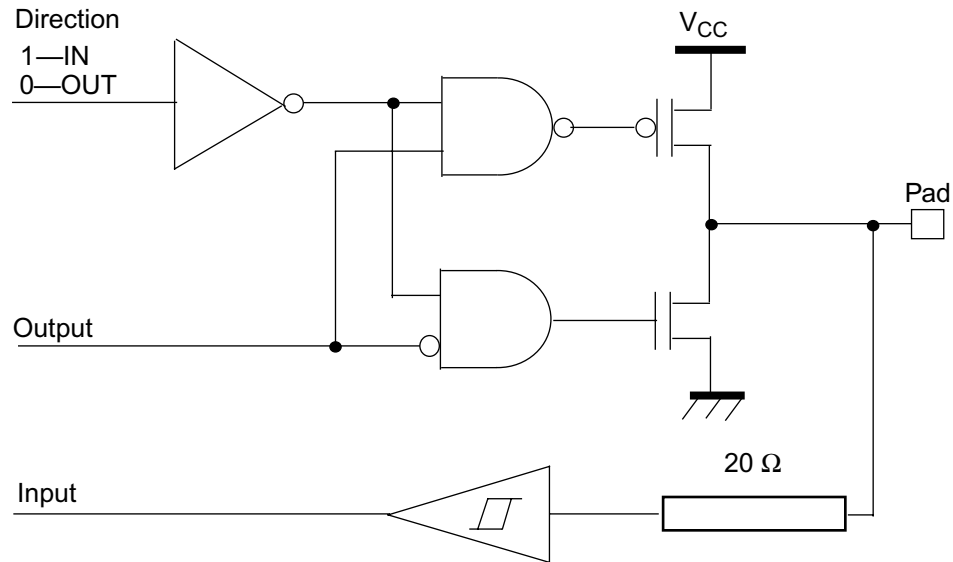
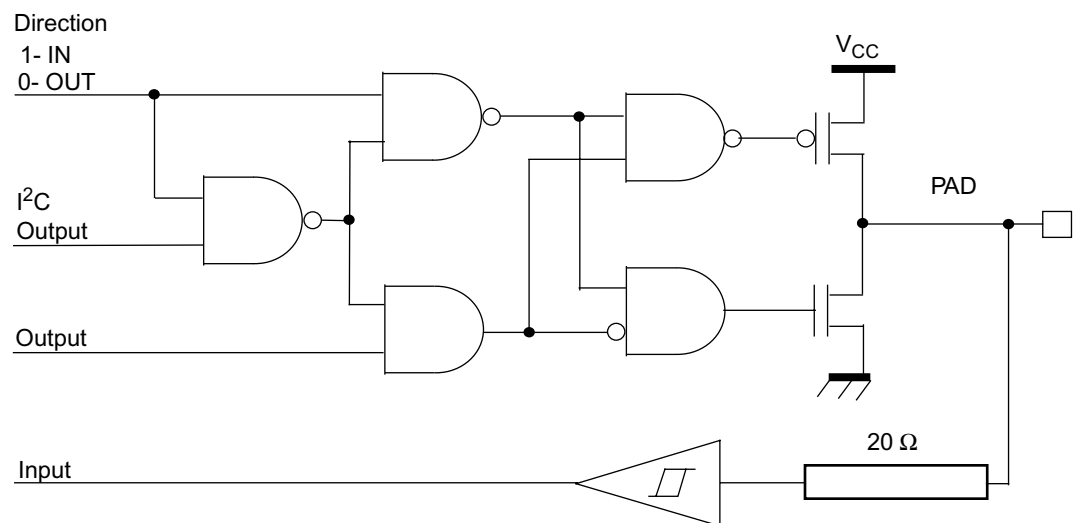
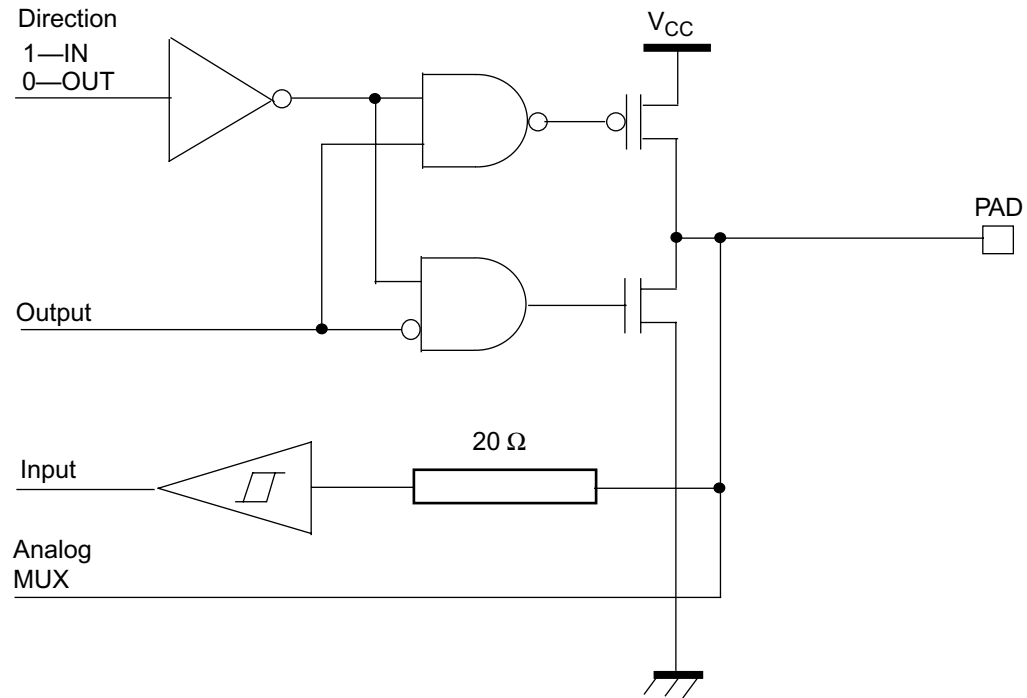

Figure 10 Bidirectional Port Pins
Figure 11 Bidirectional Pins Multiplexed with I²C Port
Figure 12 Bidirectional Pins Multiplexed with ADC Inputs
Port 0 and 1 directions are defined in R6(0) and R7(0), respectively. R4(0) and R5(0) are data registers for both Ports 0 and 1. Figure 10, Figure 11, and Figure 12 indicate I/O configuration and sharing with other functional units.